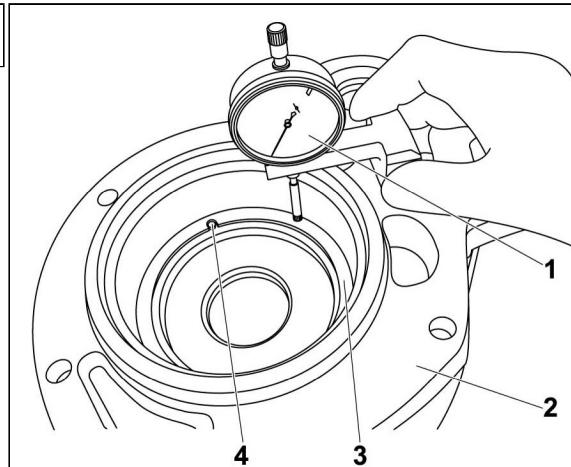

Fig. 4.17 Measurement of the distance from the rear cover face
5. Place spacer washers of the required thickness below the washer **3** (See Fig. 4.17) and press the bearing outer ring in position.